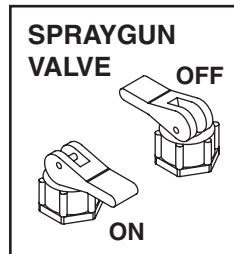
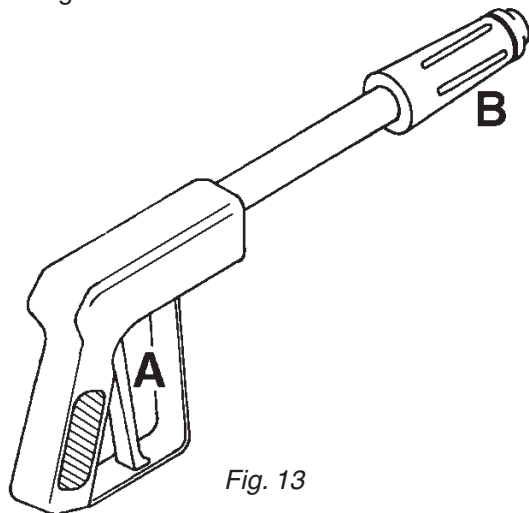

Fig. 12
Fig. 13
3. Turn the Pressure Control Valve **1** (Fig. 12) counter clockwise all the way out.
4. Set Master On/Off boom switch **5** and individual boom switches **6** (Fig. 12) "ON". Set spraygun valve **4** (Fig. 12) "OFF".
6. Increase pressure by turning Pressure Control Valve **1** (Fig. 12) clockwise. Adjust until the pressure gauge **2** (Fig. 12) reaches the desired pressure (turn Pressure Control Valve counter clockwise to decrease pressure).
7. Set spraygun valve **4** (Fig. 12) "ON" and set Master On/Off boom switch **5** (Fig. 12) "OFF".
8. Then depress the red handle **A** (Fig. 13) to spray fluid from the spraygun. Check the pressure on the system pressure gauge **2** (Fig. 12) and follow step **6** to adjust.
9. To adjust the spray pattern, turn the black handle **B** (Fig. 13) OUT for a narrow spray pattern for long distances and IN for a wide pattern for more coverage at close distances.
Turn the agitation valve **3** (Fig. 12) clockwise to reduce the agitation flow. Turn the valve counter-clockwise to increase the agitation flow.